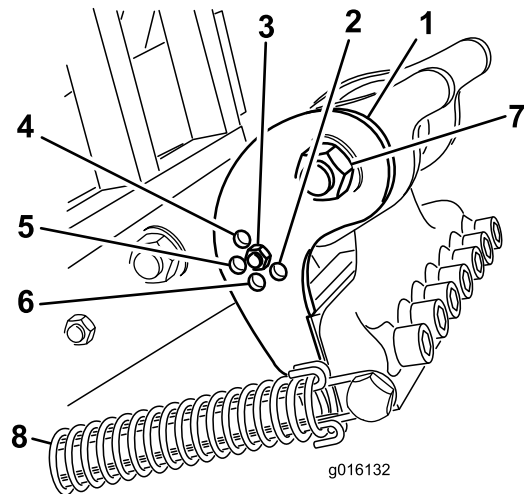

Figure 36
Set the camber bracket (Figure 36) to the correct position based on the tine length. The head stop is set to 1 of 5 predetermined positions by choosing the hole through which you bolt the adjustment rod. These holes are presets only; for instance, by using a 10-inch tine in the 12-inch position you may achieve a smoother finish; depending on the application.
3. Release the spring tension to the tine head (Figure 36).
4. Remove the nut and bolt at the adjustment holes in the camber bracket (Figure 36).